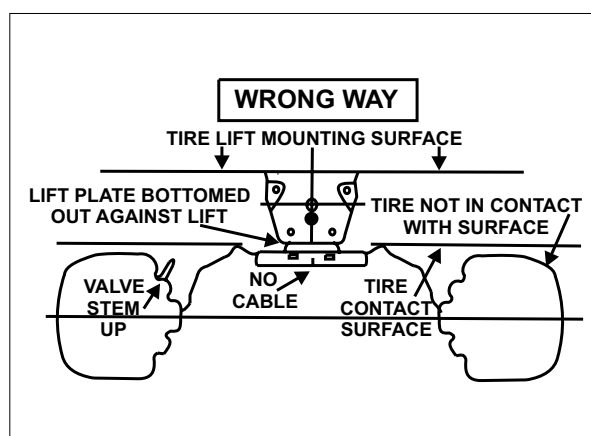

Fig. 7-18
- The hoist will not seat tire correctly if the valve stem is toward the bottom of the motorhome. (Fig. 7-18)